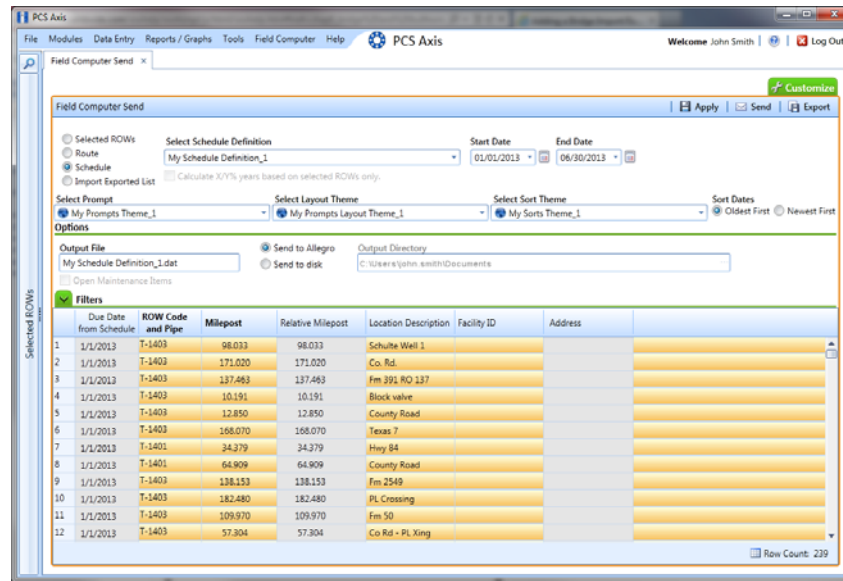

Figure 12-10. Field Computer Send Schedule
- 3 Click **Field Computer** > **Send** to open the *Field Computer Send* window (Figure 12-10, page 485).
- 9 Select a prompt, layout, and sorting theme in the following manner (Figure 12-10, page 485):